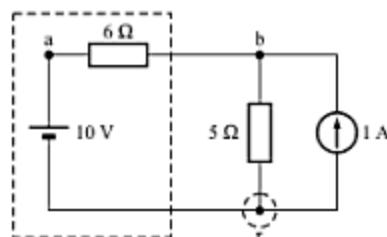

Fig. 3.74
15. Transform the voltage source within the dotted box in the circuit shown in Fig. 3.74 into its equivalent current source and then apply nodal analysis to determine voltage at node b.